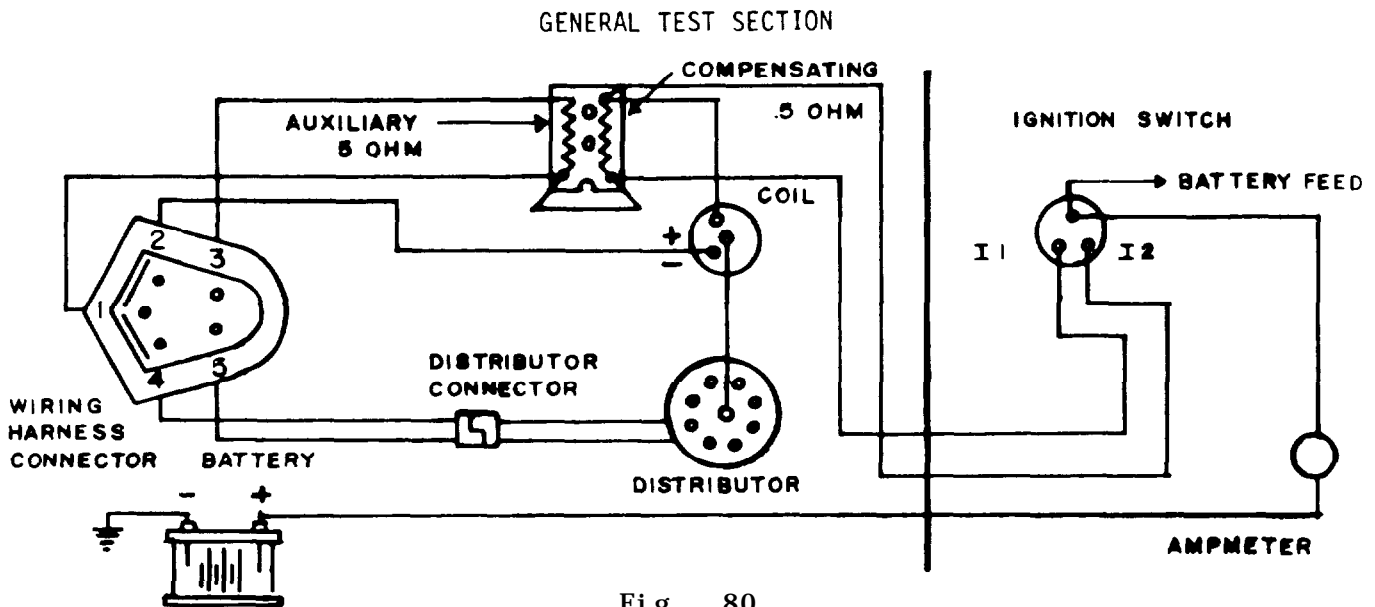

Fig. 80
- Voltage to the Control Unit Fig. 80 can be checked at pins, 1, 2 and 3. With the plug disconnected all pins should read within 1 volt of the battery voltage.